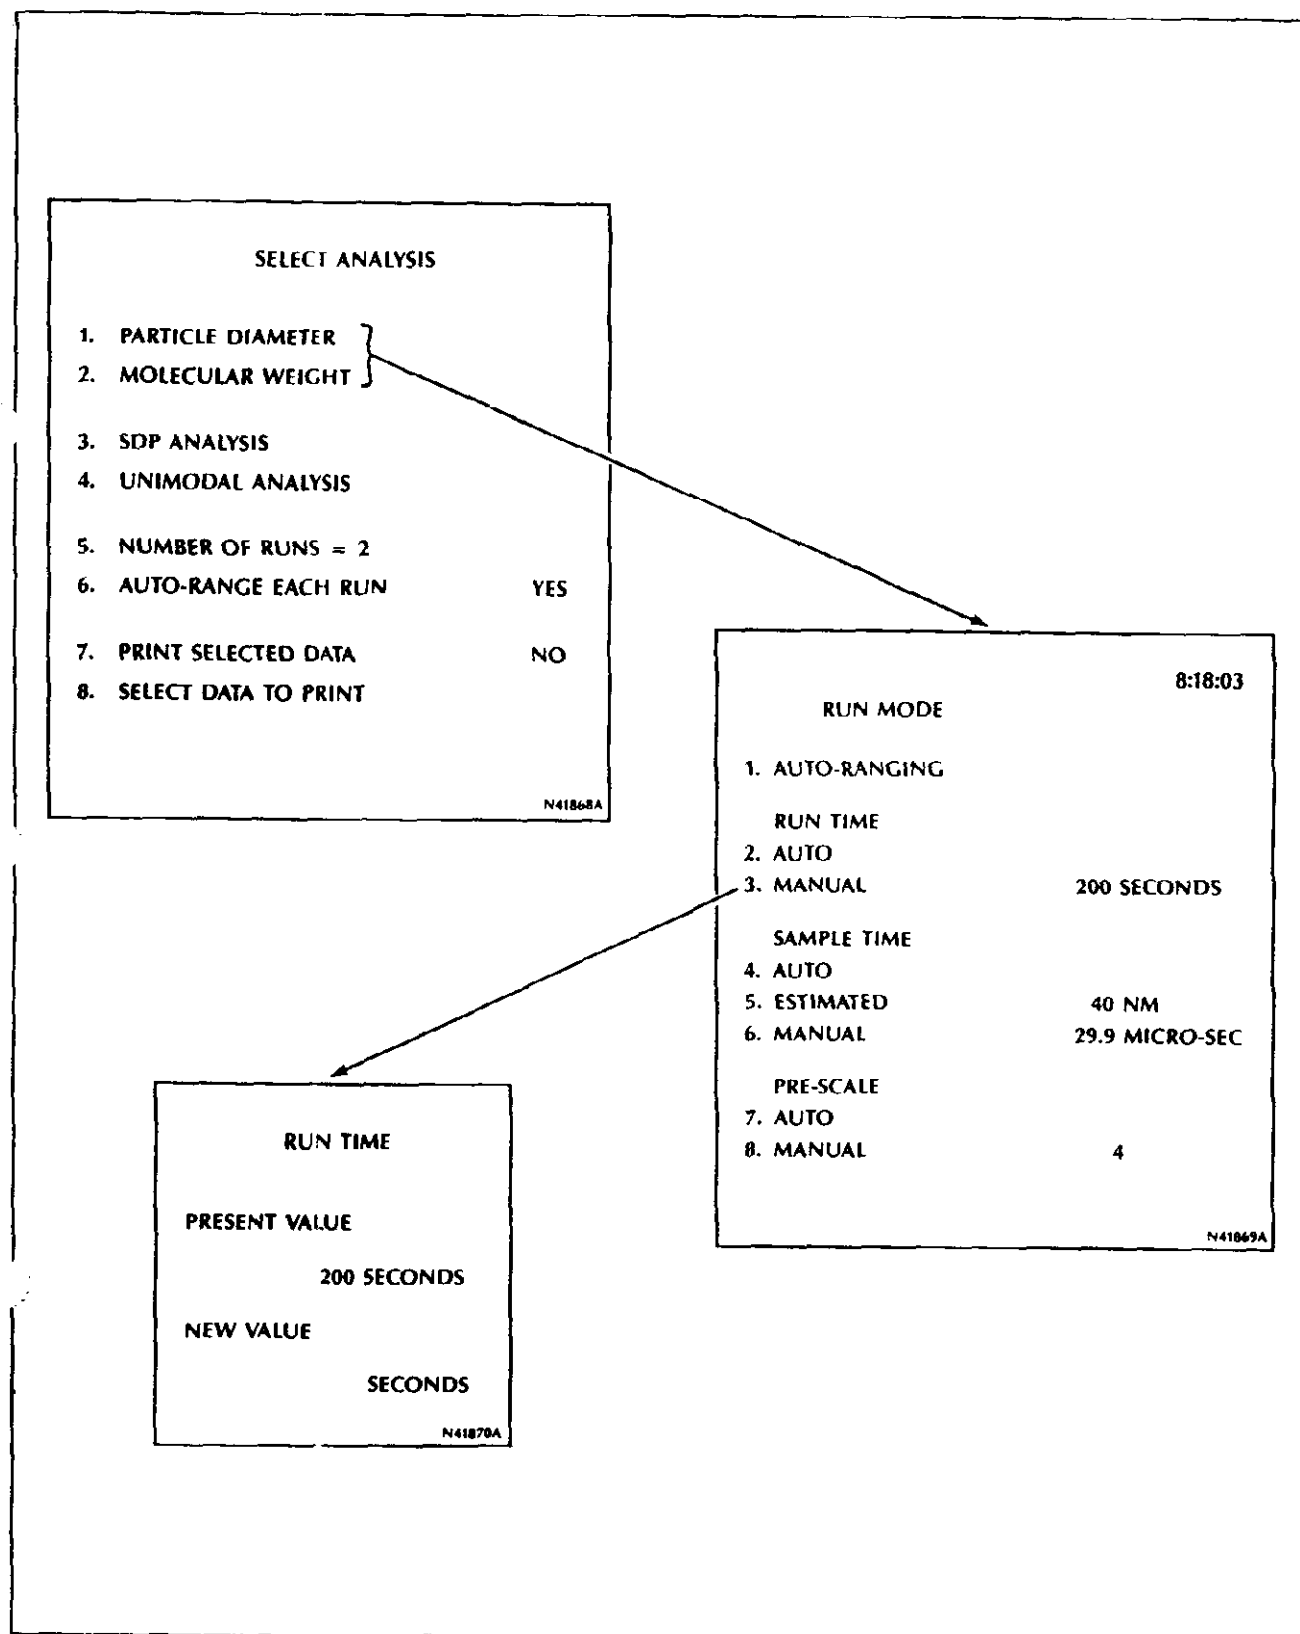

Figure 3.9 Selecting the Run Time
1. Press <SELECT ANALYSIS>.	1. The SELECT ANALYSIS menu, Figure 3.9, appears. The cursor is adjacent to PARTICLE DIAMETER.
2. Select measurement of either PARTICLE DIAMETER or MOLECULAR WEIGHT. Move the cursor adjacent to your selection and press <ENTER>.	2. The RUN MODE menu, Figure 3.9, appears. The selections, PARTICLE DIAMETER and MOLECULAR WEIGHT, let you select the sample parameters determined and presented as results on the screen. In addition, you select the form of display.
b. Manual mode	b. The RUN TIME screen, refer to Figure 3.9, appears.